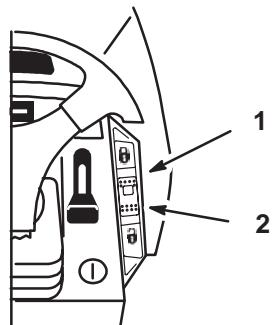

Figure 15
A three position switch, located on the dash (Fig. 15), with the functions of: Lock-Set (spring loaded), On and Unlock-Off controls the engagement. Cruise control maintains the traction control position without foot pressure. Cruise control is intended for operation in the forward direction only. Do not use cruise control in reverse.
1. Begin driving tractor: Refer to Driving Forward or Backward, Page 18. While holding your foot steady on the traction control, push the cruise control switch (Fig. 15) to the "Lock-Set" position.
1. While holding your foot steady on the traction control, move the cruise control switch (Fig. 15) to the "Unlock-Off" position.